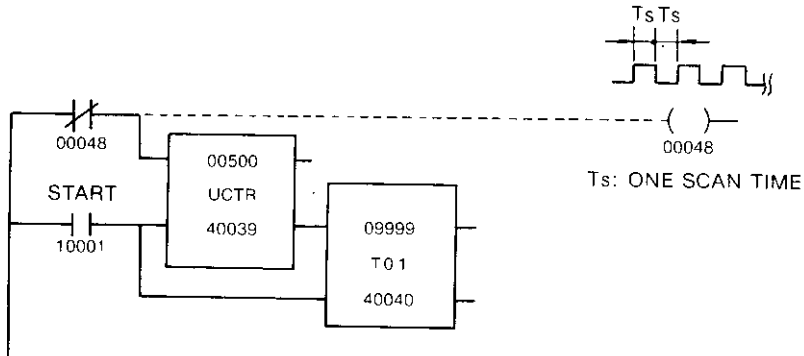

Fig. 5.27 A Circuit for Measuring Scan Time
(4) Circuit for Measuring Scan Time
- Fig. 5.27 shows a sample measuring circuit for scan time.